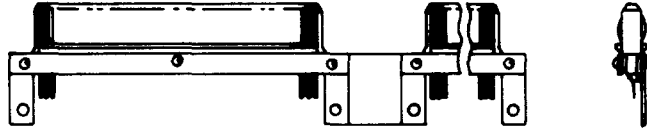

Fig. 12—970A Connector
**2.05 970A:** The 970A connector (Fig. 12) consists of two 946C connectors mounted on a common bracket above each other. The connector is designed to mate with the 971A connector and is used on the No. 4 Electronic Switching System (ESS).